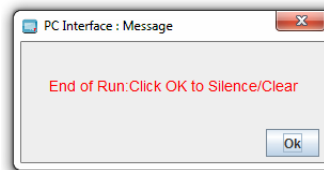

Figure 138. Completed
- After the profile run is complete, the profile Run Completed window will appear as shown in **Figure 138**. Press Ok in pop-up window.